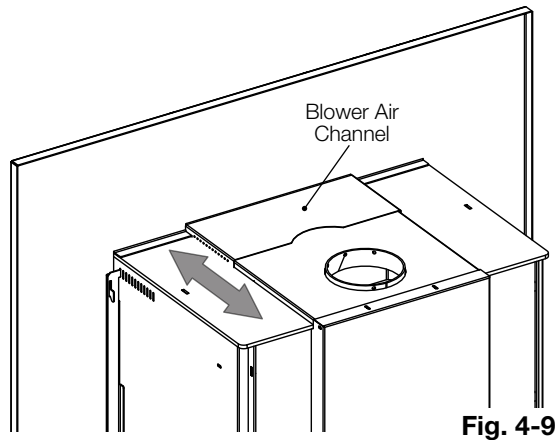

Fig. 4-9
- C.** Adjust the blower air channel by sliding it forwards or backwards (**Fig. 4-9**).